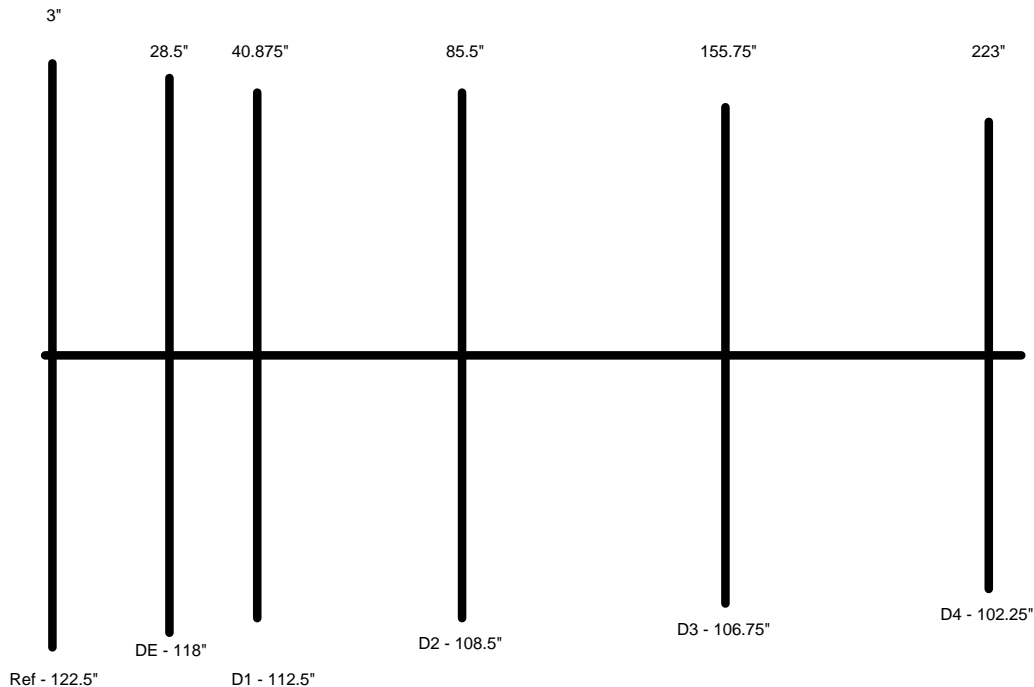

Figure 3
3. Using a permanent marker, refer to Figure 3 and mark the boom where each element mounts. All measurements are referenced from the reflector end of the boom.
6. The driven element (DE) mounts the same way; however, the connector bracket sits between the element and the element to boom saddle. Make sure the connector points towards the front of the antenna.